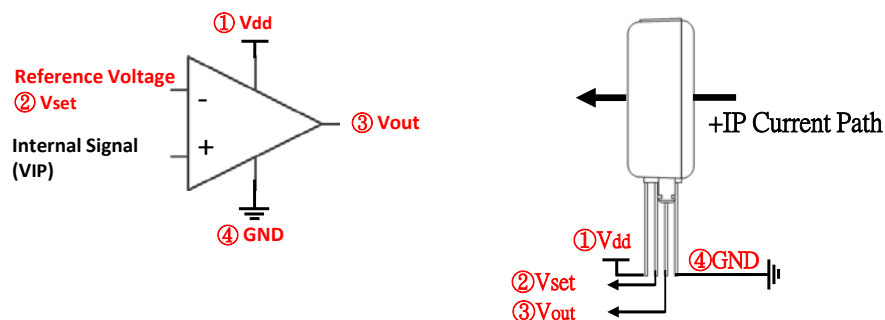

Fig. 12
**3. Set the Overcurrent Value** :  $V_{set}$  pin and  $V_{out}$  pin are open-circuited, which is shown in Fig.12. The  $V_{set}$  pin input the above-mentioned measured voltage value. The  $V_{IP}$  is an internal Hall sensing signal, which converts into a proportional voltage according to the IP current.
**2.1 Set the Reference Voltage  $V_{set}$  :**  $V_{set}$  pin and  $V_{out}$  pin are open-circuited, which is as shown in Fig.12. The  $V_{set}$  pin input voltage range is 0~ $V_{dd}$ .